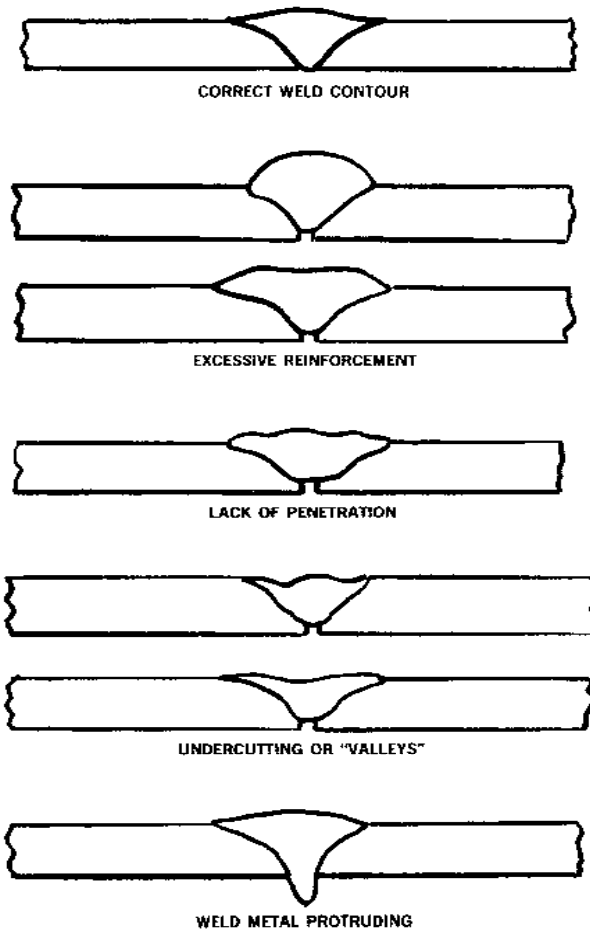

Figure 23, Characteristics of Good and Bad Welding Joints
7. Since the angle of the tip flame is preheating the metals ahead of the weld, the last 1/2" of weld is critical. Slightly raise the welding tip and increase the addition of filler rod to ensure a full smooth weld. Refer to Figure 23, page 31 for visual characteristics of good and bad weld joints.